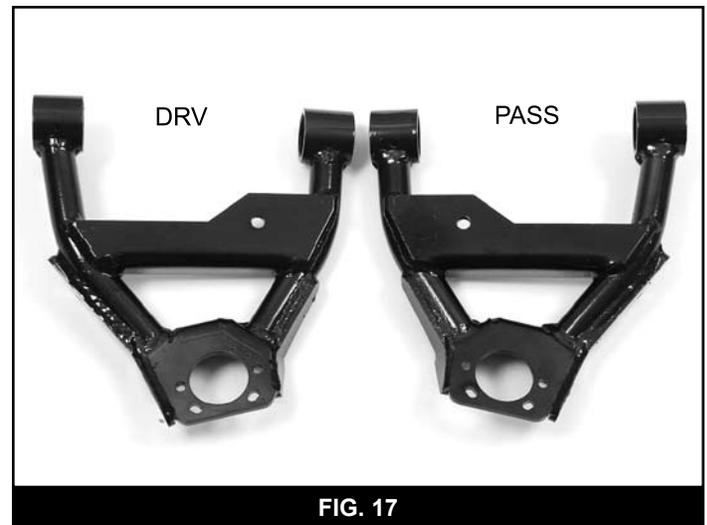

FIG. 17
40. Locate the new driver's side control arm (Fig. 17).